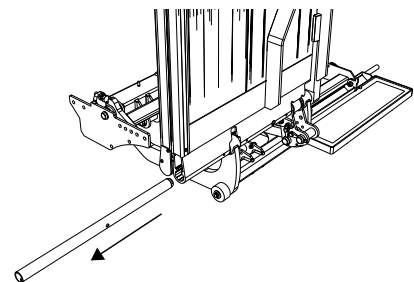

Figure 15. Attach and lock the cylinder
7. Attach the cylinder to the cylinder bracket and lock with locking pin, see Figure 15.